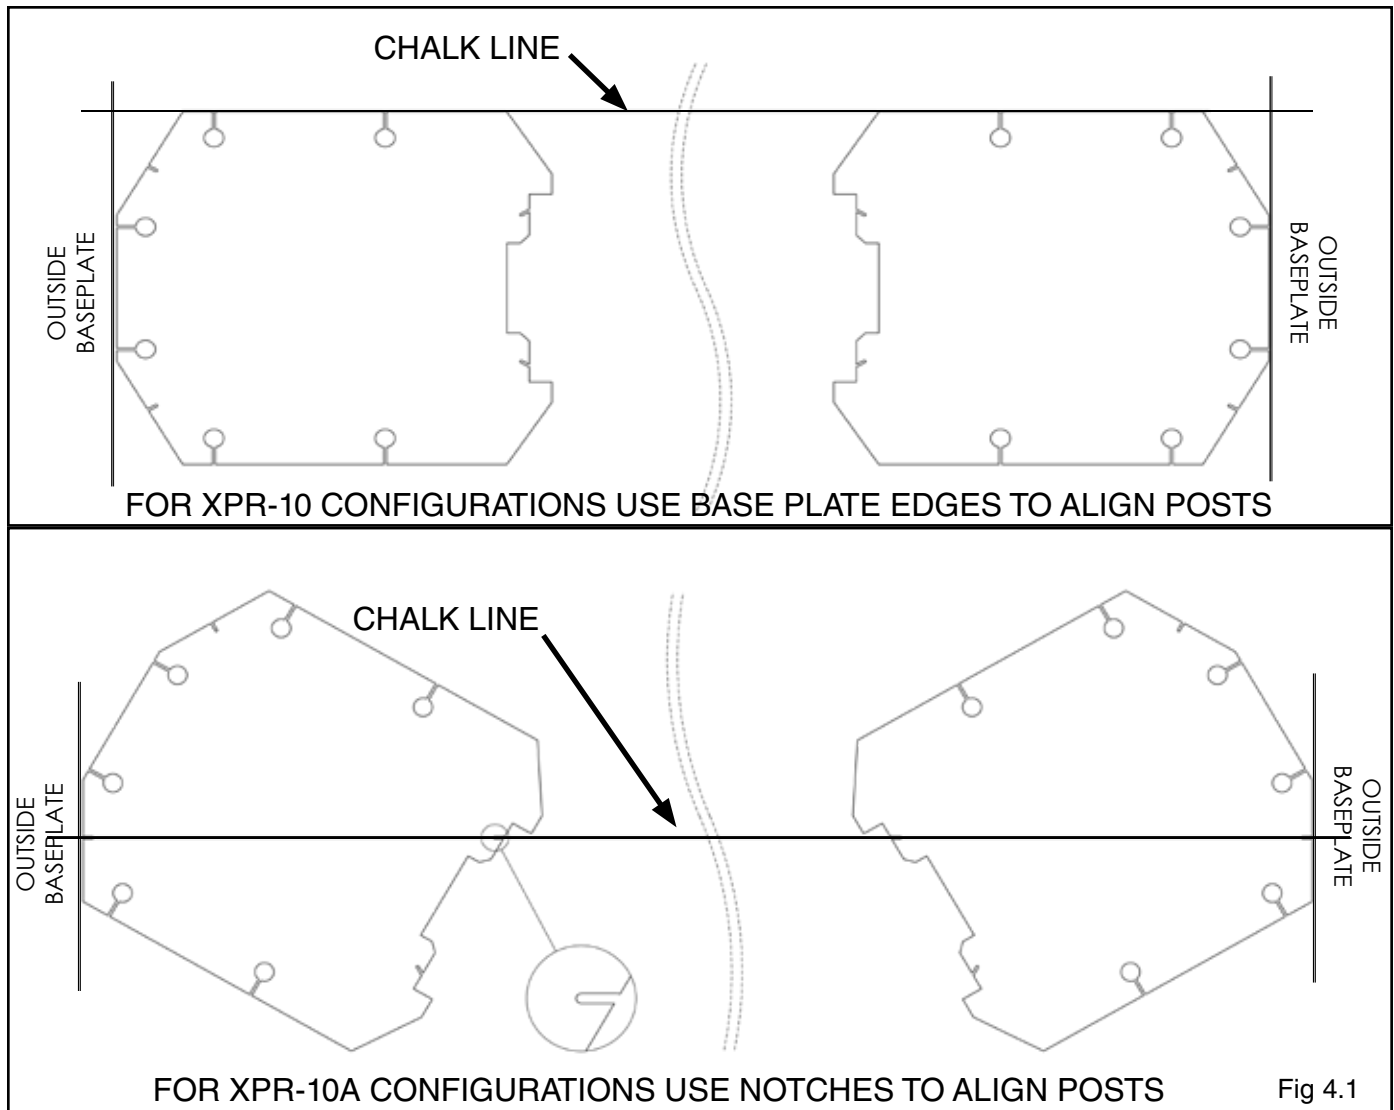

Fig 4.1
4. Once a location is determined, use a carpenter's chalk line to layout an alignment line for the post locations. Keep all dimensions square within 1/8" (3mm) or malfunctioning of the lift can occur. (See Fig 4.1)